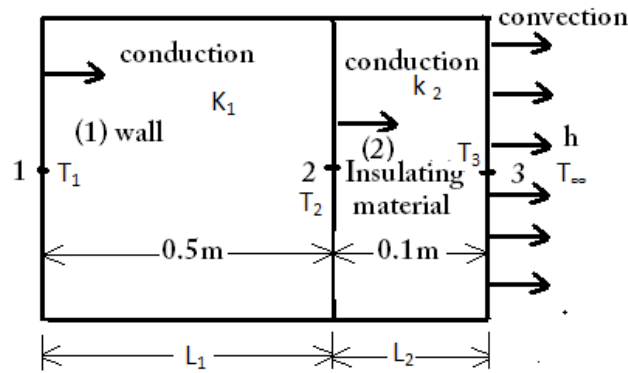

fig.8.
15. (a) A wall of 0.5mm thickness having thermal conductivity of 6W/Mk. The wall is to be insulated with a material thickness 0.1m having an average thermal conductivity of 0.3W/mk. The inner surface temperature is 1200° C and the outside of the insulation is exposed to atmospheric air at 30°C with heat transfer coefficient of 40 W/m²K as shown in fig.8. Interpret the nodal temperatures. (16)